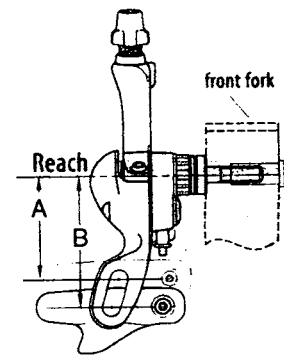

Fig. 11 - Measuring brake reach
Correspondingly, different caliper brake models may have different length arms. This is typically referred to as the brake's reach. Brake reach compatibility can easily be measured on the frame and brake caliper. On the frame or fork, it is a measurement from the center of the mounting hole to the center of the sidewall of the rim. (see figure 12 on page 6-8). On the brake caliper, reach is measured from the center of the fixing bolt to the top and bottom of the shoe slot of the arm. The brake reach of the arm is measured in two points to give a range of adjustment capability. Referring to figure 11, you will see the shortest reach the brake is capable of achieving (the highest shoe setting) is called dimension A, the longest reach is called dimension B. Note on the drawing that both dimensions are measured to the center of the shoe bolt. As long as our frame or fork measurement is between dimension A and B, our frame or fork and brake calipers are compatible with each other.
Step 9 - Measure dimension B of the brake caliper (figure 11).